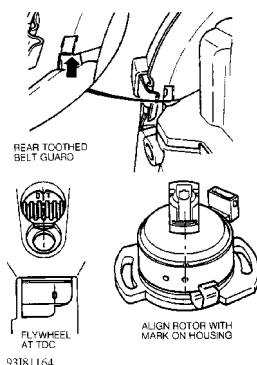

Fig. 1: Distributor Installation (EuroVan)
1) Distributor removal procedure is not available from manufacturer. To install distributor, ensure cylinder No. 1 is at TDC of compression stroke. See Fig. 1.